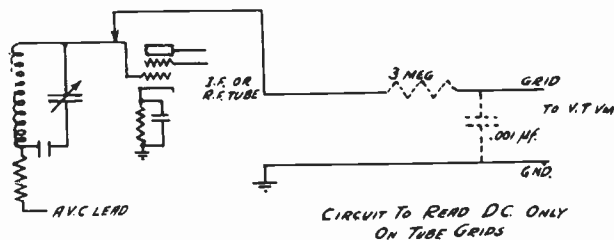

Figure 29
- 5.41—Occasionally the resistors connecting from the return circuits of the r.f. or i.f. coils to the a.v.c. control lead become open or the by-pass condensers in the grid return circuits become shorted. Either of these two difficulties will stop a.v.c. action on the tube grid. To make sure that this action is taking place directly on the grid of the tube, the circuit shown in Figure 29 should be used. The condenser across the input circuit of the vacuum tube voltmeter will short out the radio frequency at that point while the d.c. potential applied to the grid of the tube will be indicated by the meter.